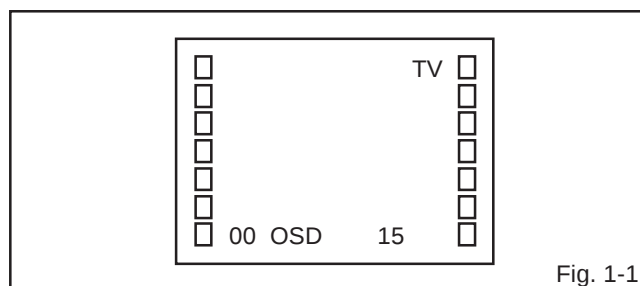

Fig. 1-1
Press the VOL. DOWN button on the set and the Channel button **(9)** on the remote control for more than 1 second to appear the adjustment mode on the screen as shown in **Fig. 1-1**.
3. Activate the adjustment mode display of **Fig. 1-1** and press the channel button **(02)** on the remote control to select "RF DELAY".
3. Activate the adjustment mode display of **Fig. 1-1** and press the channel button **(01)** on the remote control to select "CUT OFF".
4. Activate the adjustment mode display of **Fig. 1-1** and press the channel button **(10)** on the remote control to select "R.BIAS".
3. Activate the adjustment mode display of **Fig. 1-1** and press the channel button **(16)** on the remote control to select "TINT".
3. Activate the adjustment mode display of **Fig. 1-1** and press the channel button **(05)** on the remote control to select "H.PHASE".
3. Activate the adjustment mode display of **Fig. 1-1** and press the channel button **(06)** on the remote control to select "V.SIZE".
3. Activate the adjustment mode display of **Fig. 1-1** and press the channel button **(07)** on the remote control to select "V.SHIFT".
1. Activate the adjustment mode display of **Fig. 1-1**.
4. Activate the adjustment mode display of **Fig. 1-1** and press the channel button **(03)** on the remote control to select "VIF VCO".
2. Activate the adjustment mode display of **Fig. 1-1** and press the channel button **(13)** on the remote control to select "BRIGHTNESS".
2. Activate the adjustment mode display of **Fig. 1-1** and press the channel button **(14)** on the remote control to select "CONTRAST".